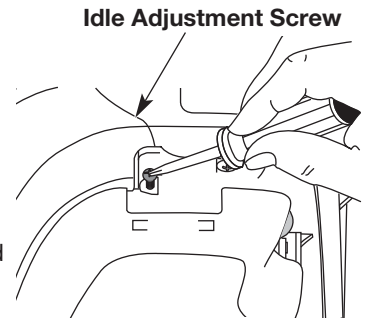

Fig. 30
The idle speed of the engine is adjustable. An idle adjustment screw is between the air filter cover and the engine starter housing (Fig. 30).
2. Release the throttle trigger and let the engine idle. If the engine stops, insert a small phillips screwdriver in between the Air Filter Cover and the Engine Cover (Fig. 30). Turn the idle speed screw in, clockwise, 1/8 of a turn at a time (as needed) until the engine idles smoothly.